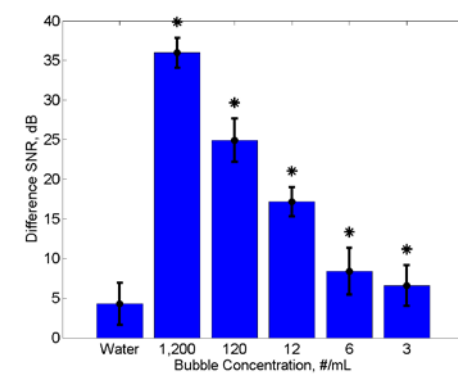

Figure 2. Bubble detection resolution
- DFU can detect 3 microbubbles/mL (Figure 2)